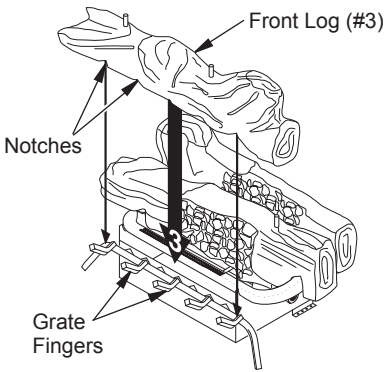

Figure 27 - Installing Front Log (#3) (Base may vary from illustration)
3. Locate the notches in bottom of front log (#3). Place front log on grate fingers. Make sure notches of front log line up with grate fingers (see Figure 27).